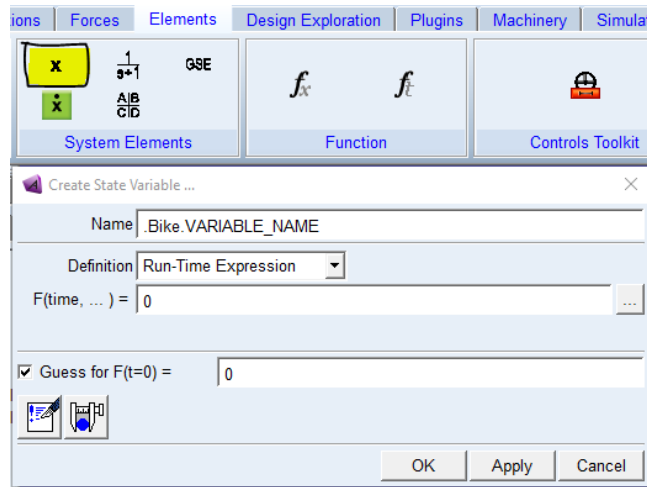

Figure 2:
1. Create *State Variable* for every parameter that should be an I/O to the plant. Find it under *Elements* and select *Create State Variable*. See Figure 2 how it should look.